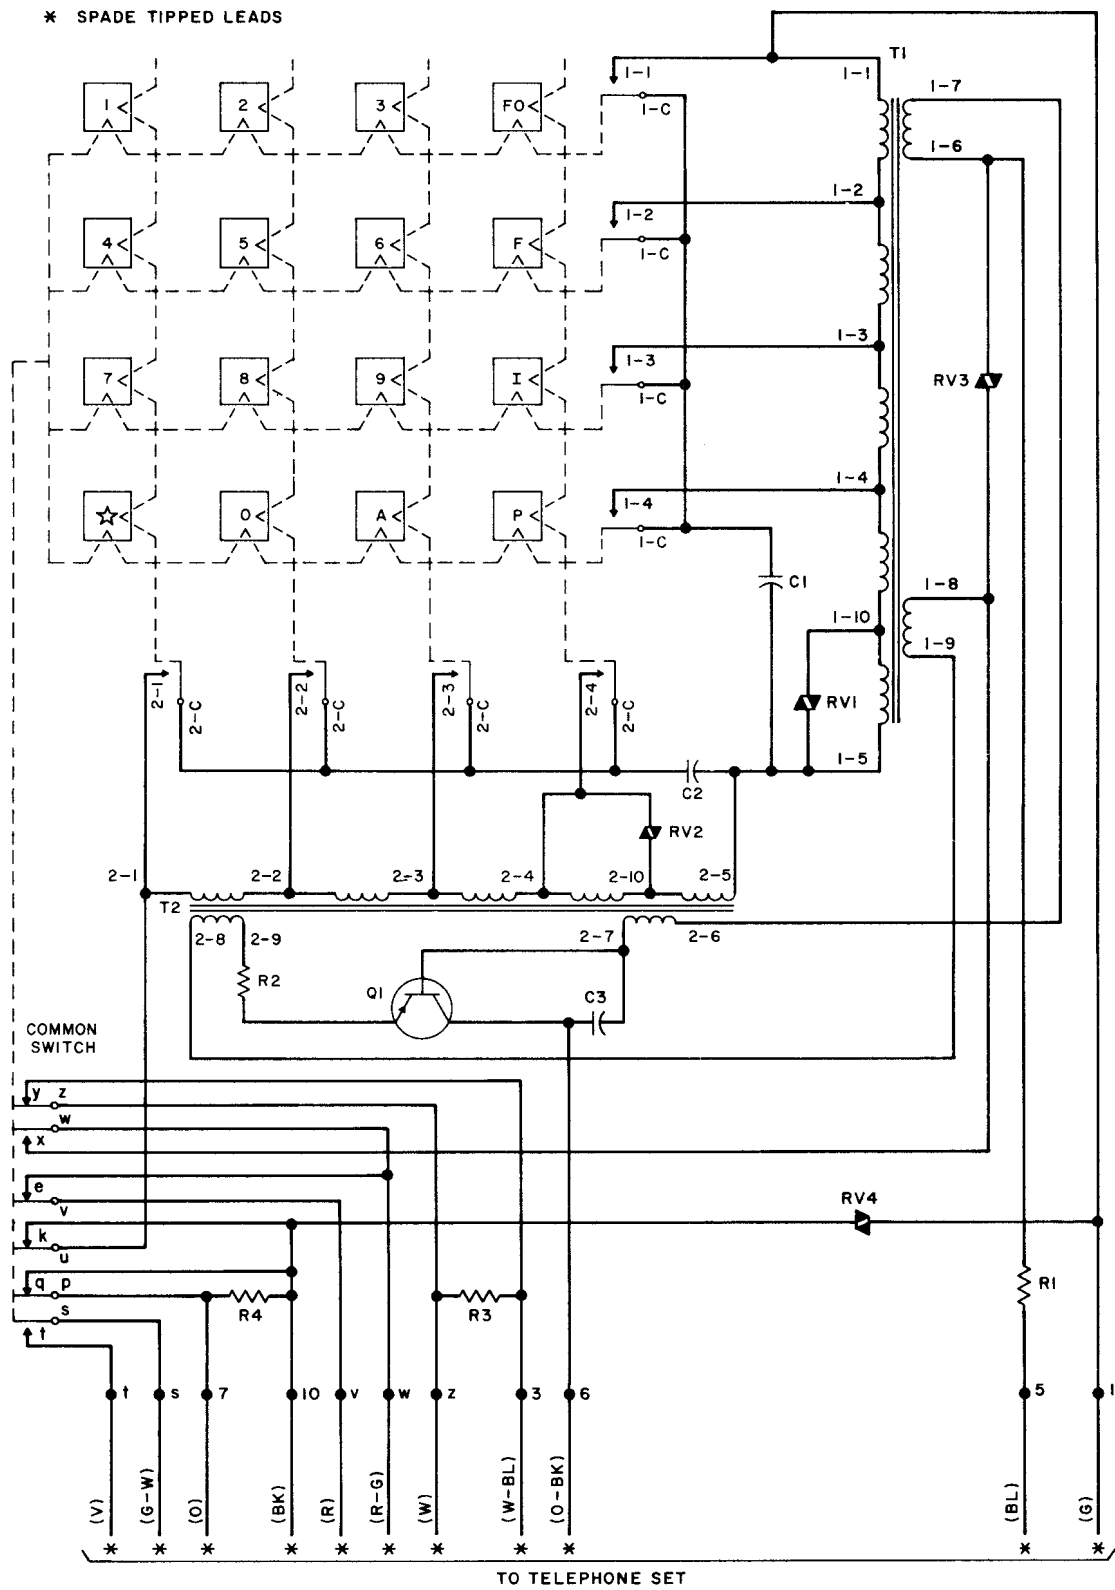

Fig. 8 — 66A3A Dial — Wiring Schematic
- Fig. 8 — 66A3A Dial — Wiring Schematic